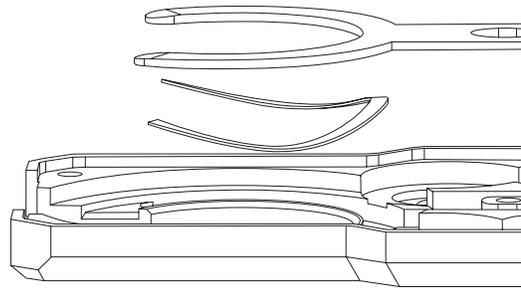

Figure 35 Spring Orientation
13. Verify that the spring is positioned with the ends pointing up in the housing pocket and is completely covered by the brush. See Figure 35 and 36. If necessary, reposition the spring under the weld head brush.